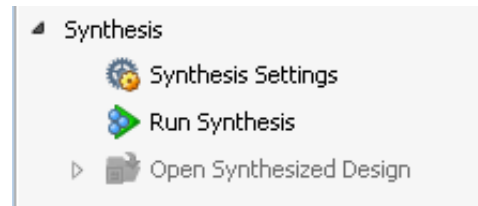

Figure 1-1: Flow Navigator: Synthesis
1. Click the **Synthesis Settings** button, as shown in Figure 1-1.